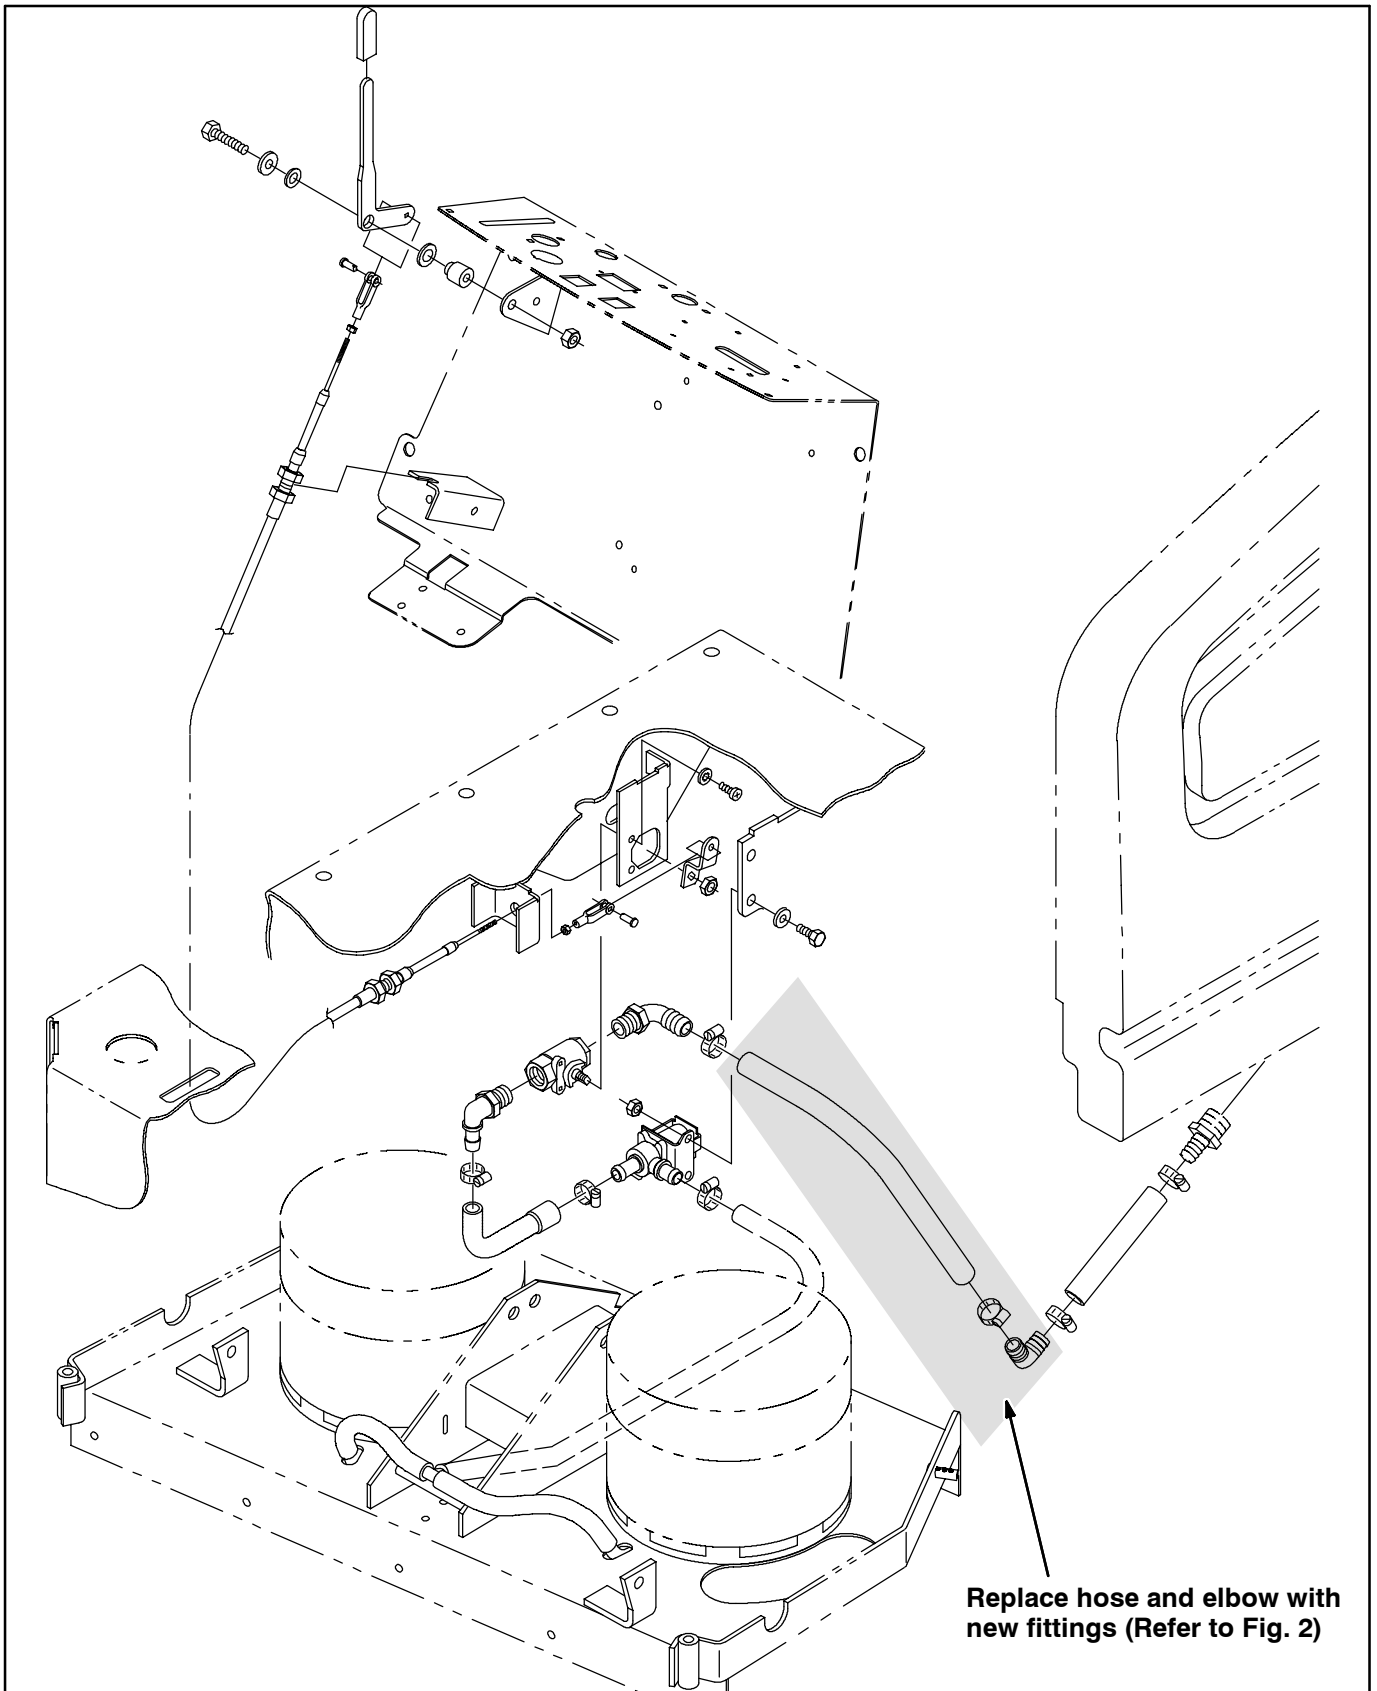

FIG. 1 - STANDARD SOLUTION CONTROL GROUP
(Refer to FIG. 1 thru 9)
7. Disconnect and remove the 18" hose connecting the water valve elbow and the tank hose elbow. Set the mounting hose clamps aside. (Refer to FIG. 1)